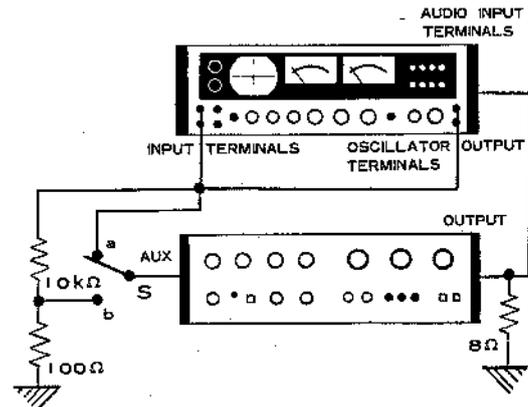

Fig. 22
1. Measuring connector as shown in Fig. 22
Note . For measuring a gain of high sensitive amplifier to set the switch S to "b" position in Fig.22, and use the following formula: